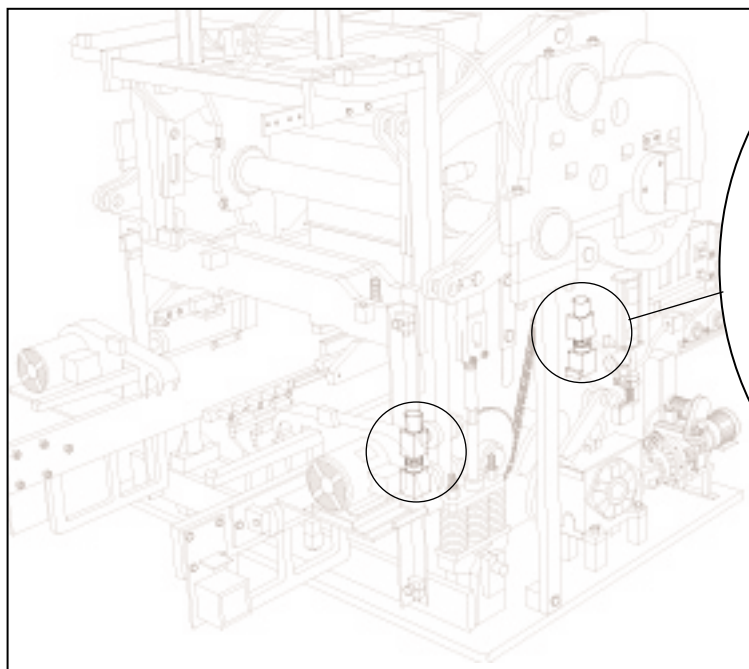

Figure 18.25 BOLTS AT ALL 4 CORNERS (RIGHT SIDE SHOWN).
- b. Loosen bolts at all 4 corners that secure mold throat assembly (See figures 18.25 and 18.26). Remove top spacers.